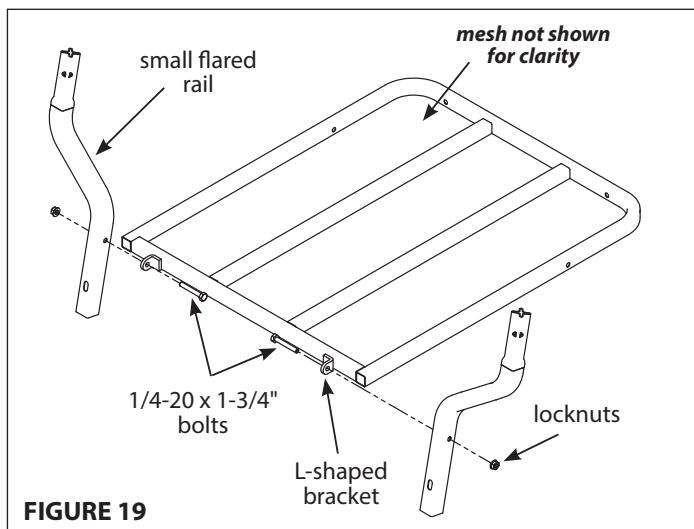

FIGURE 19
1. Attach the (2) small flared rails (18705) to the L-shaped brackets on the platform weldment (18720) using (2) provided 1/4-20 x 1-3/4" bolts and locknuts. **SEE FIGURE 19.**